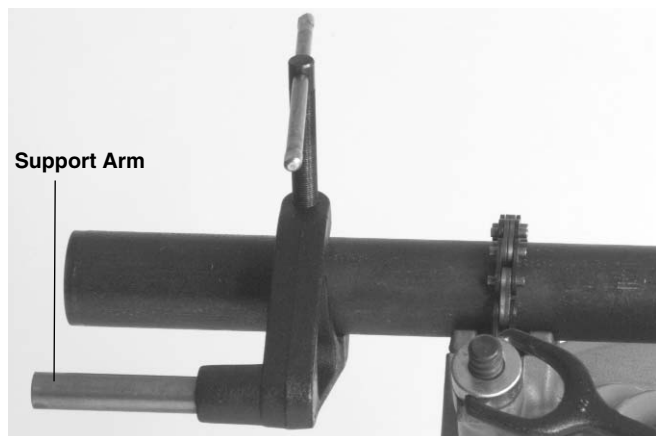

Figure 4 – Using No. 691 Support Arm When Threading $\frac{3}{4}$ " Pipe and Larger
4. Position No. 691 Support Arm on pipe so end of support arm is in line with end of the pipe (Figures 4 & 5). Make sure jaws squarely contact pipe and tighten handle firmly to prevent slipping of the jaws.